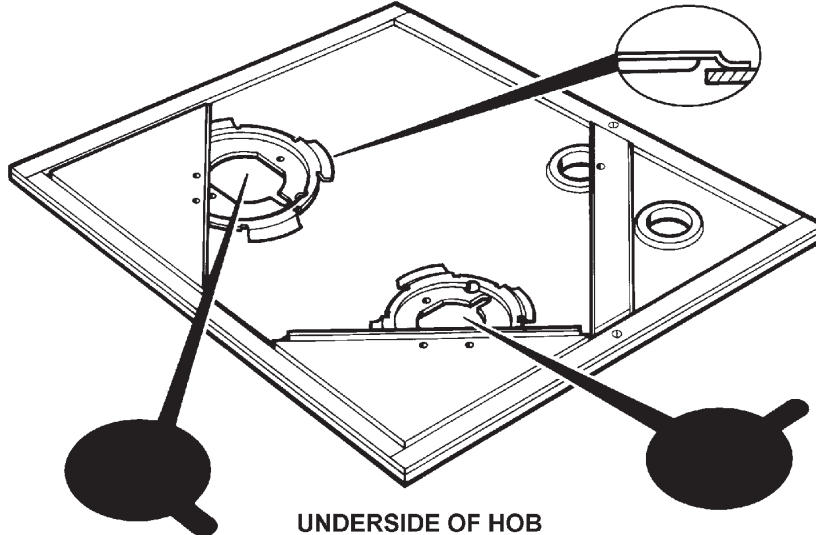

Fig. 12
19. Locate the two stainless steel spring plates on the underside of the hob surface plate glass. (See Fig. 12). The spring plates should be held loosely in place by the triangular plates adjacent to each burner hole. Note the spark electrode position of each burner and rotate the spring plates into approximately the appropriate position.